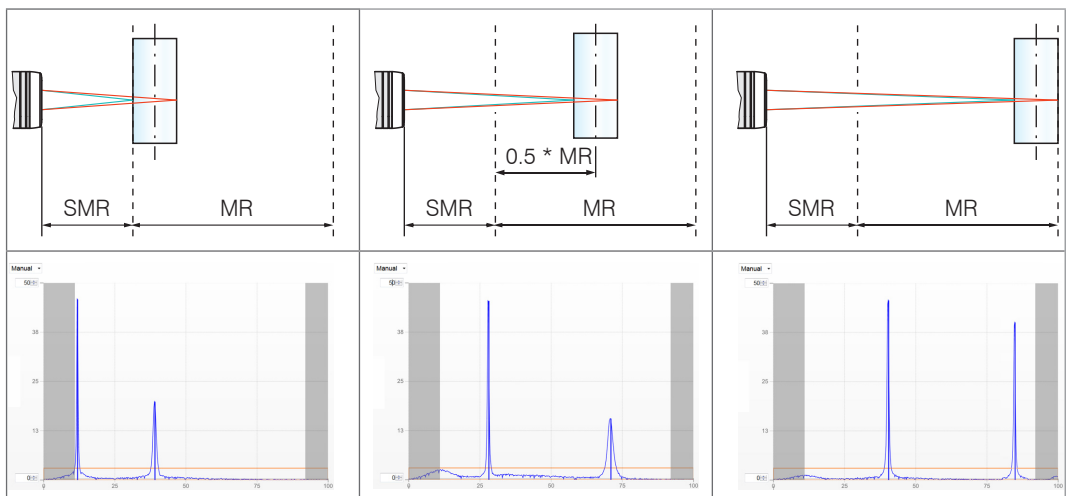

Fig. 59 Video signal at start of measuring range (SMR), midrange (MMR) and end of measuring range (EMR) for determination of refractive indices
- ➡ Move the measuring object with the front edge to start of measuring range, see Fig. 59.